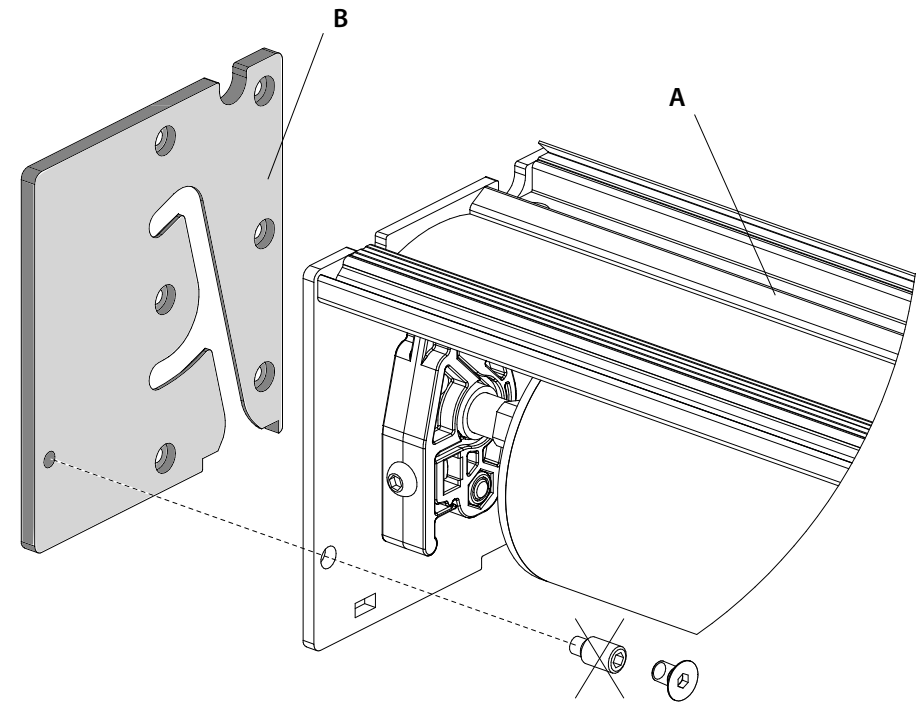

Fig. 18
- Hook the protection cassette (B) to the plates (A).
- Lock the protection cassette with a screw see fig.18.